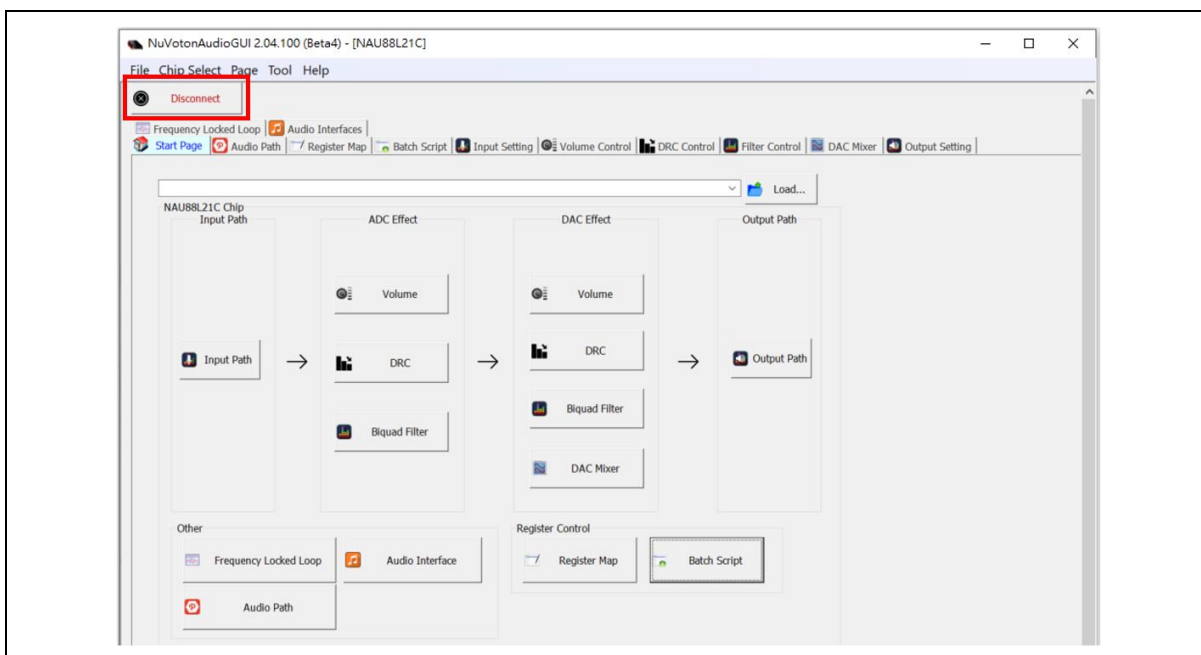

Figure 3-7 NuvotonAudioGUI Operating Step (4)
- If the red [Disconnect] appears on the upper left corner of the NuvotonAudioGUI window, as shown in Figure 3-7, check if the hardware configuration is correct.